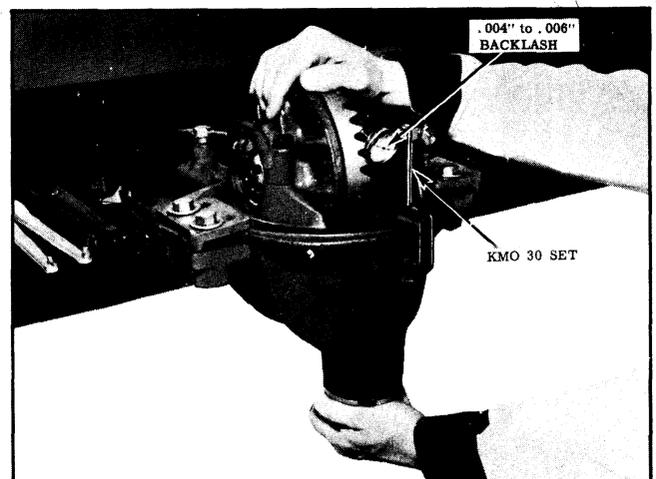

Fig. 6-13 Measuring Back Lash
3. Measure the backlash between ring gear and pinion gear for reassembly purposes when original gears are re-installed. (See Fig. 6-13)